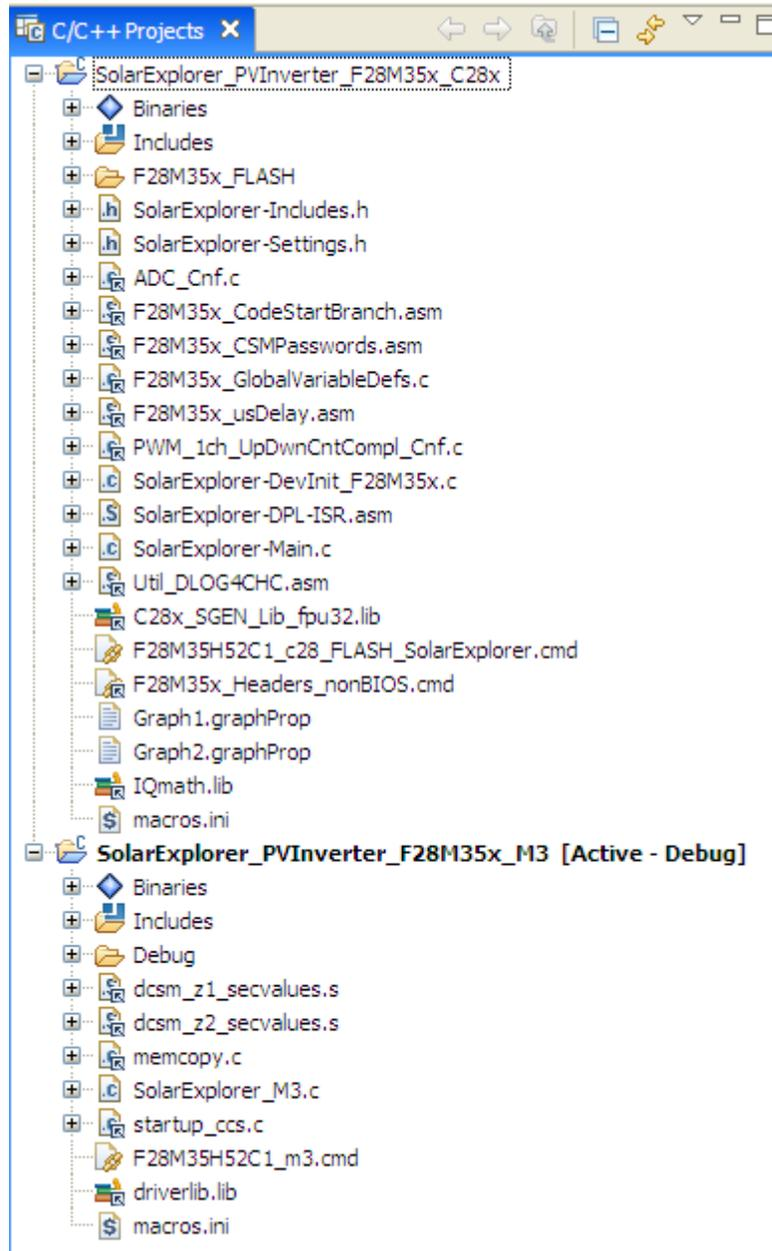

Fig 21 PV Inverter project in C/C++ tab
10. Fig 21 shows the project in the CCSv4 C/C++ Project tab, it shows all the key files used in the project.